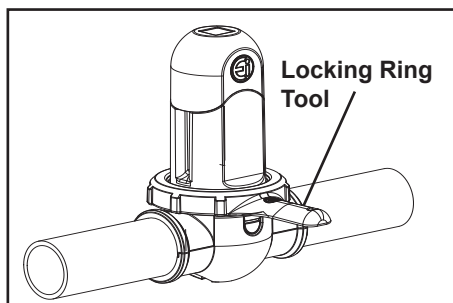

Figure 14. Locking Ring
14. Screw down the locking ring to the threaded clamp using the locking ring tool (see Figure 14).